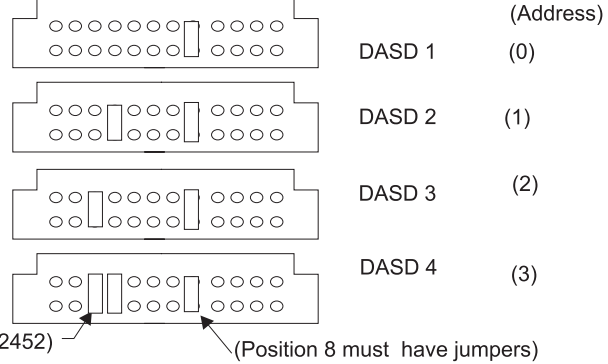

Figure 4-52. Setting the DASD address (Note: F/C 2904, 2909, and 2918 are mirror DASD)
10. Check jumper position on DASD (if any) for address, and record for proper setting on replacement DASD (see Figure 4-52 on page 4-48).
Note: If the replacement DASD is the same part number as the original, install jumpers in the original positions; otherwise, see Figure 4-52 on page 4-48.